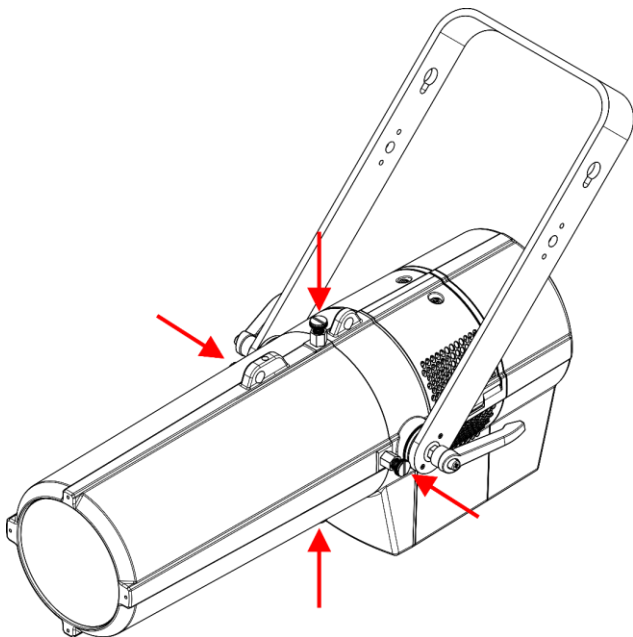
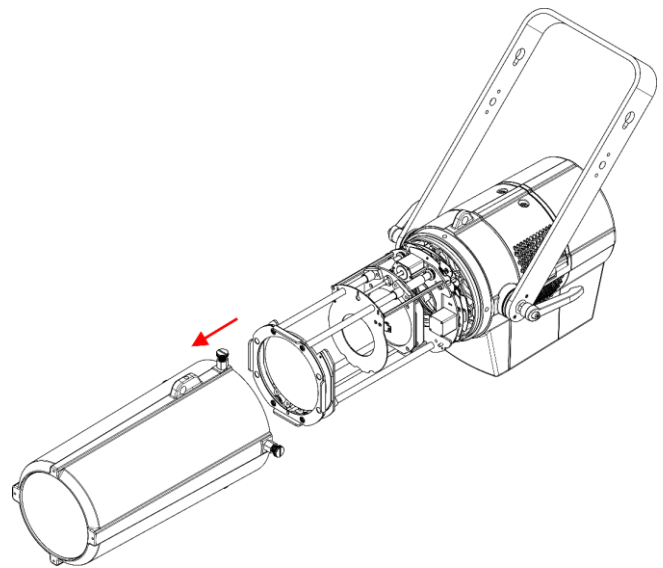

Fig. 03
Fig. 04
01) Loosen the 4 cover mounting screws (Fig. 03) and remove the cover (Fig. 04).